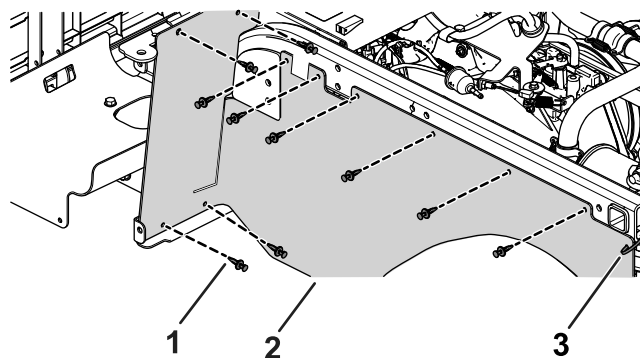

Figure 23
2. Install each rubber cover using the previously removed 10 plastic rivets and a cable tie (Figure 23).